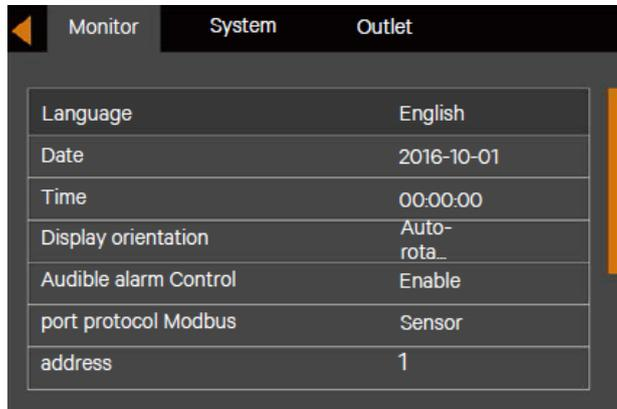

Figure 5-10 Monitor Interface
2. Press the  key to move the cursor to 'Monitor', see Figure 5-10.